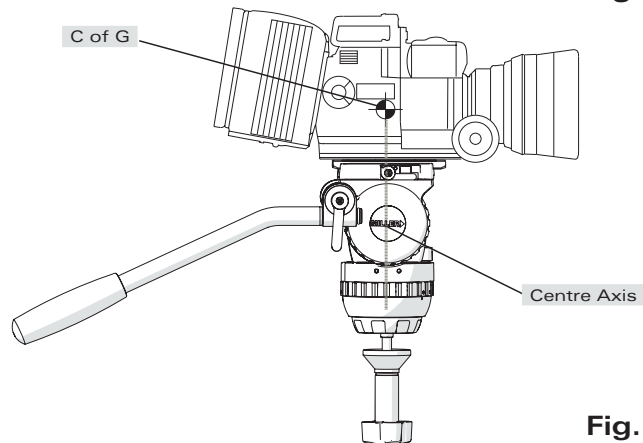

Fig. 3b
2.4 Untighten TILT LOCK, slide the CAMERA PLATE such that the camera's C of G is directly above the centre axis of the Fluid Head (fig. 3b), camera should be balanced (if not slide camera backward or forward). Once balanced tighten the SLIDE LOCK LEVER (anti-clockwise)3 and tighten TILT LOCK.